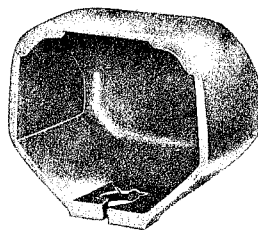

Fig. 6 — 150A Cover
3.02 150A Cover (Fig. 6) is used as a protective covering for the 123 type protector when mounted outdoors or in a dusty location. When this cover is used, the protector is mounted directly on the mounting surface. There is no code assigned to the combination of a protector and the 150A cover.